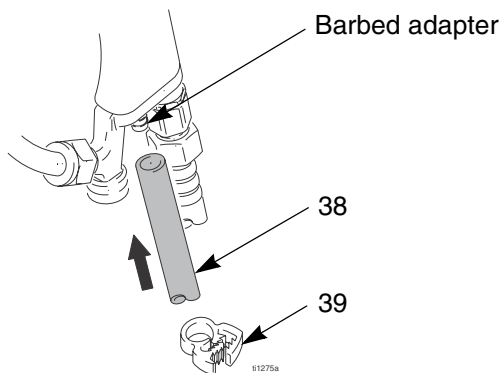

FIG. 5
Press the exhaust tube (38) onto the barbed adapter on the bottom of the gun handle. Secure the tube with the clamp (39) (FIG. 5).